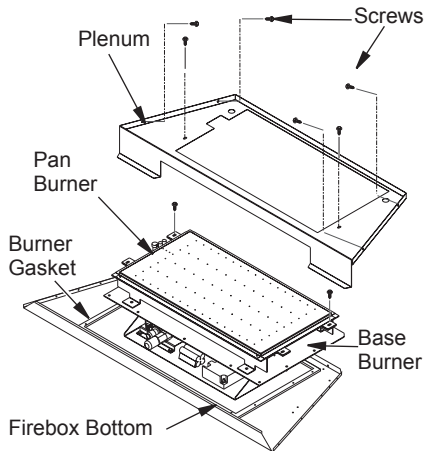

Figure 28 - Removing/Installing Burner Base
3. Remove 6 screws to disengage plenum (see Figure 28).
6. Remove 9 screws from front and sides of firebox burner base. Lift entire base from unit by pulling forward to disengage from rear flange and then lifting up (see Figure 28).